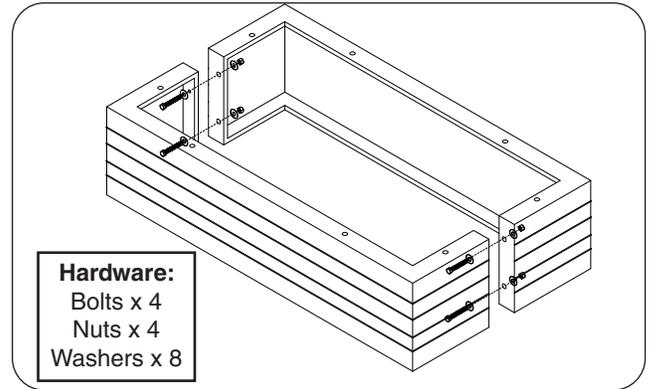

Fig. 20-1 Assemble hearth
2. Arrange the hearth pieces in their proper position. Carefully align the pilot holes, and insert the hardware in the order shown in Fig. 20-1. Hand tighten, then use two $\frac{3}{4}$ " open end wrenches (or equivalent) to fasten.